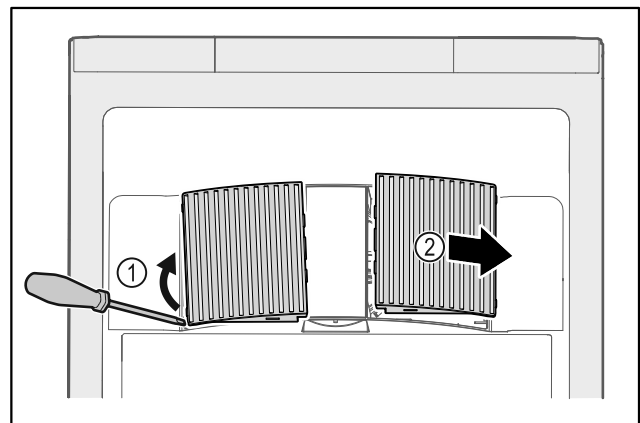

Fig. 172
- ▶ Carefully lever out fan covers from the side Fig. 172 (1) and remove towards the front Fig. 172 (2).